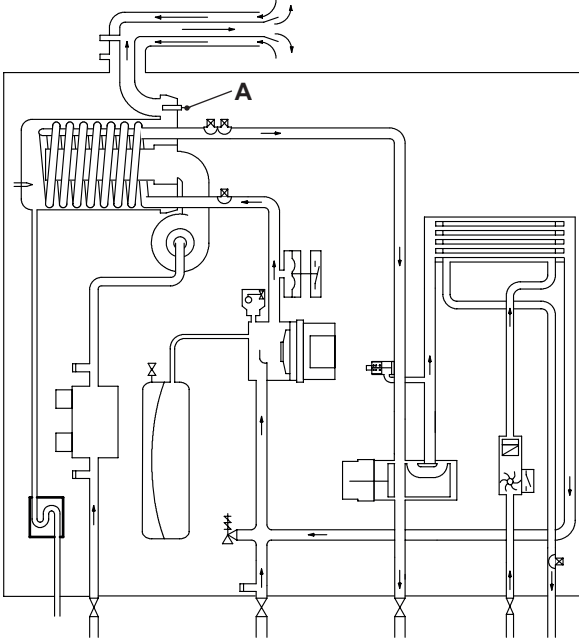
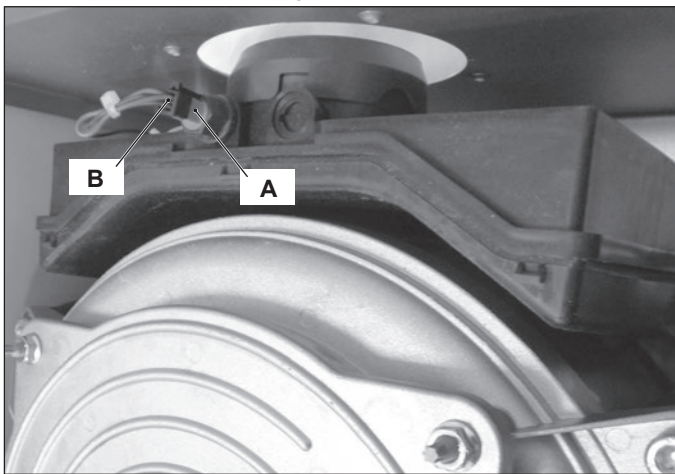

Figure 19.1
Figure 19.2
The Flue temperature probe NTC and Safety thermal fuse "A" in Figure 19.1 and Figure 19.2 senses the temperature of the combustion products that flow through the condensing heat exchanger.
A Flue temperature probe NTC and Safety thermal fuse "A" in Figure 19.1 and Figure 19.2 is also connected in series with the Flue temperature probe NTC and acts as a safety device in extreme case of incorrect operation of the Flue temperature control system.
- 2 Disconnect the connector "B" from the Flue temperature probe NTC and Safety thermal fuse by pressing the plastic hook placed on the side of the connector (Figure 19.2).
- 3 Unscrew and remove the Flue temperature probe NTC and Safety thermal fuse "A" (Figure 19.2) from the condensing heat exchanger.